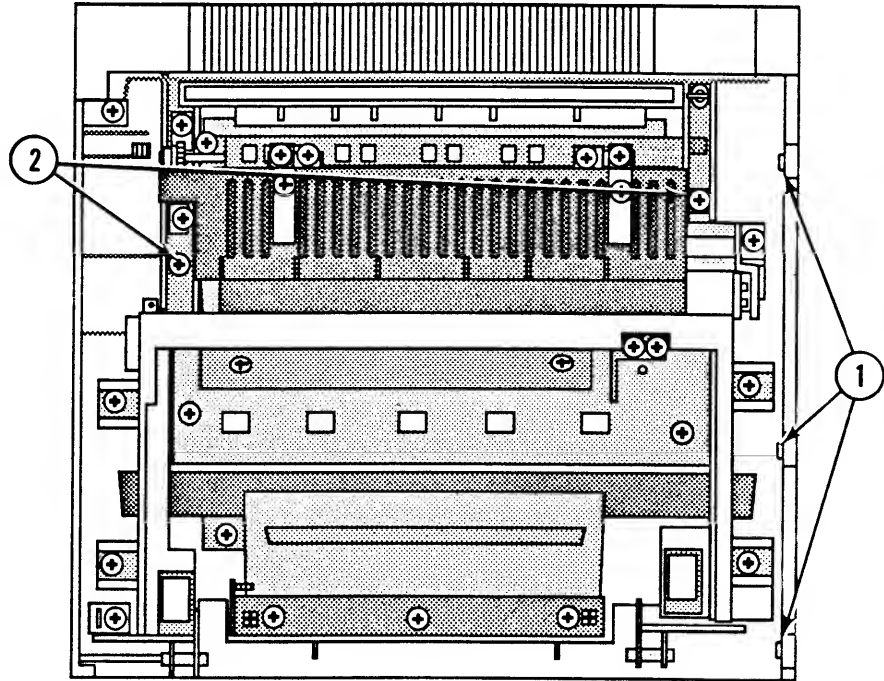

FIGURE 81
2. Remove the three Phillips screws (Figure 81, #1) that secure the upper front panel to the upper panel and copy tray. Remove the upper front panel.
3. Remove the two Phillips screws (Figure 81, #2) that secure the cover brackets to the copy tray.